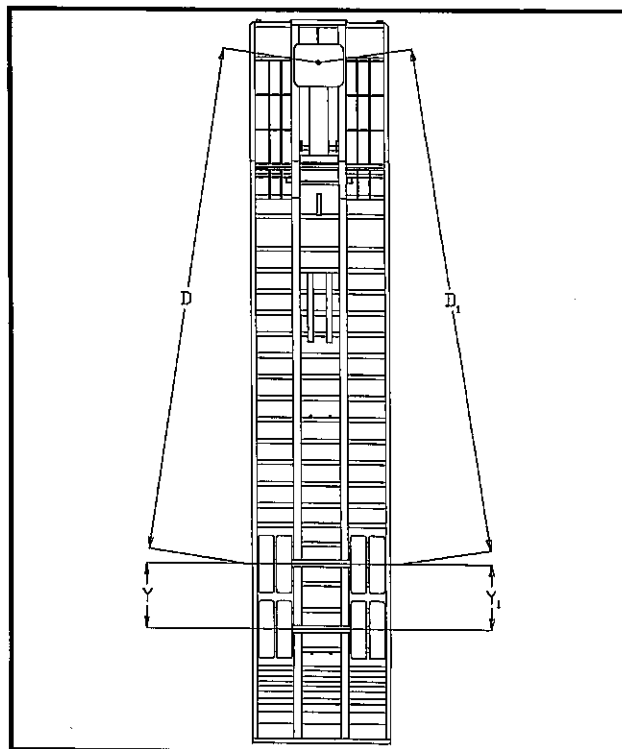

FIG. 6-10 CHECKING AXLE ALIGNMENT
d. Measure (D) from the plumb bob to the center point on one end of the axle. Record this measurement (See Figure 6-10).
e. Measure (D1) to the other end of the axle in the same manner as in Step d. Record this measurement (See FIG. 6-10).
e. Now align the rear axle to the front axle in the same manner using the torque arm for adjusting. The rear axle should be exactly parallel to the front axle. In other words, dimensions Y and Y1 in **Figure 6-10** should be the same.